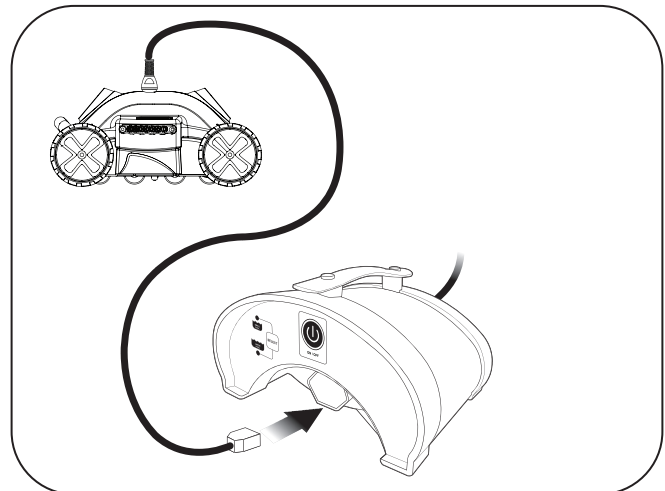

Figure 2. Connect the Power Cable
2. Straighten the floating cable. Lift the flap on the power supply and plug in the power cable (Figure 2).